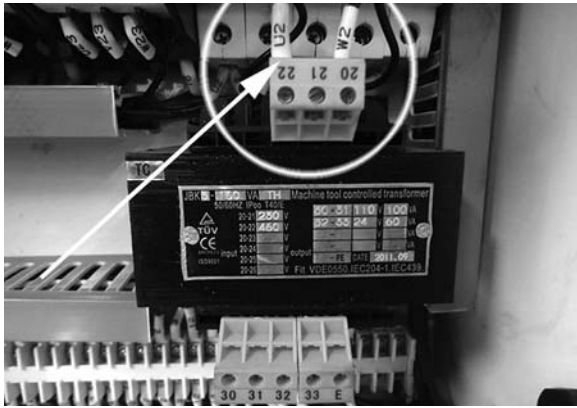

Figure 22 – Transformer rewiring
4. **Transformer:** Open electrical box on rear of machine on the headstock side. Switch wire from 230V terminal to 460V terminal as outlined on the transformer label. See Figure 22.